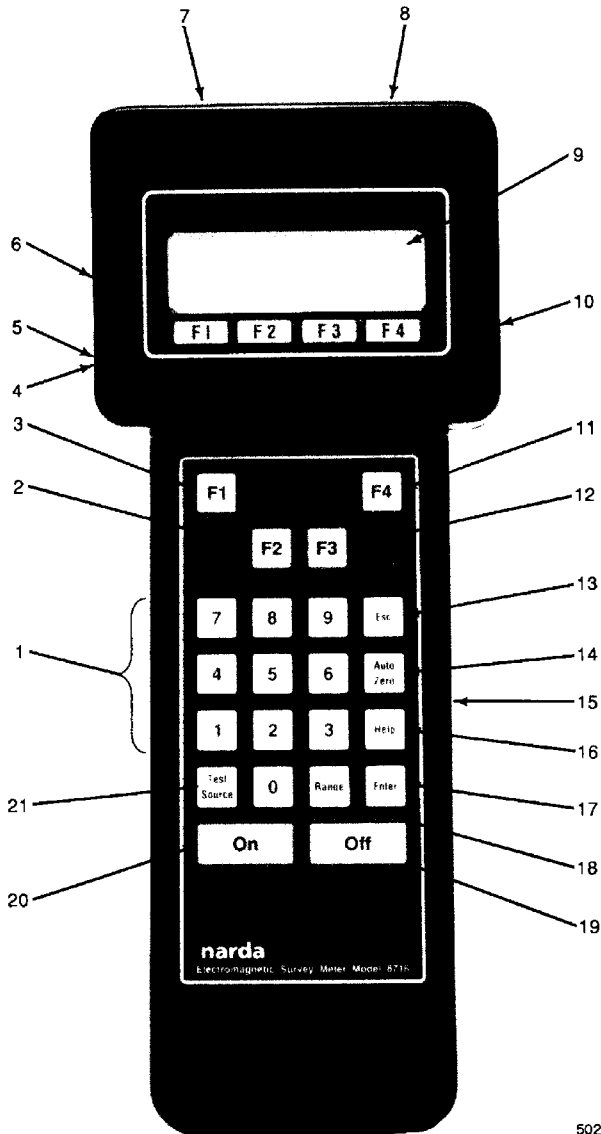

Figure 4-1. Model 8718 Controls and Indicators
- (1) Remove the meter and probe assembly from the carrying case.
- (2) Visually inspect the carrying case, meter and probes for evidence of shipping damage.
- (3) Report any damage in accordance with applicable regulations.
- c. **Pre-operational Tests.** Prior to performing a pre-operational check, review the procedures contained in Section 4, Operating Instructions. To perform a pre-operational test, refer to Figure 4-1 and perform the procedures contained in the following subparagraphs:
- (1) Make certain the meter is set to OFF, by depressing the "OFF" key (19).
- (2) Connect connector P1 of the probe to PROBE connector J1 (7) on the meter.
- (3) Depress the "ON" key (20) to energize the Model 8718.
To recharge the battery of the Model 8718, refer to Figure 4-1 and proceed as follows:
For detailed descriptions of the Model 8718 operating controls and indicators, refer to Table 4-1. Using the index numbers shown in Table 4-1, refer to Figure 4-1 to locate and identify each control/indicator.